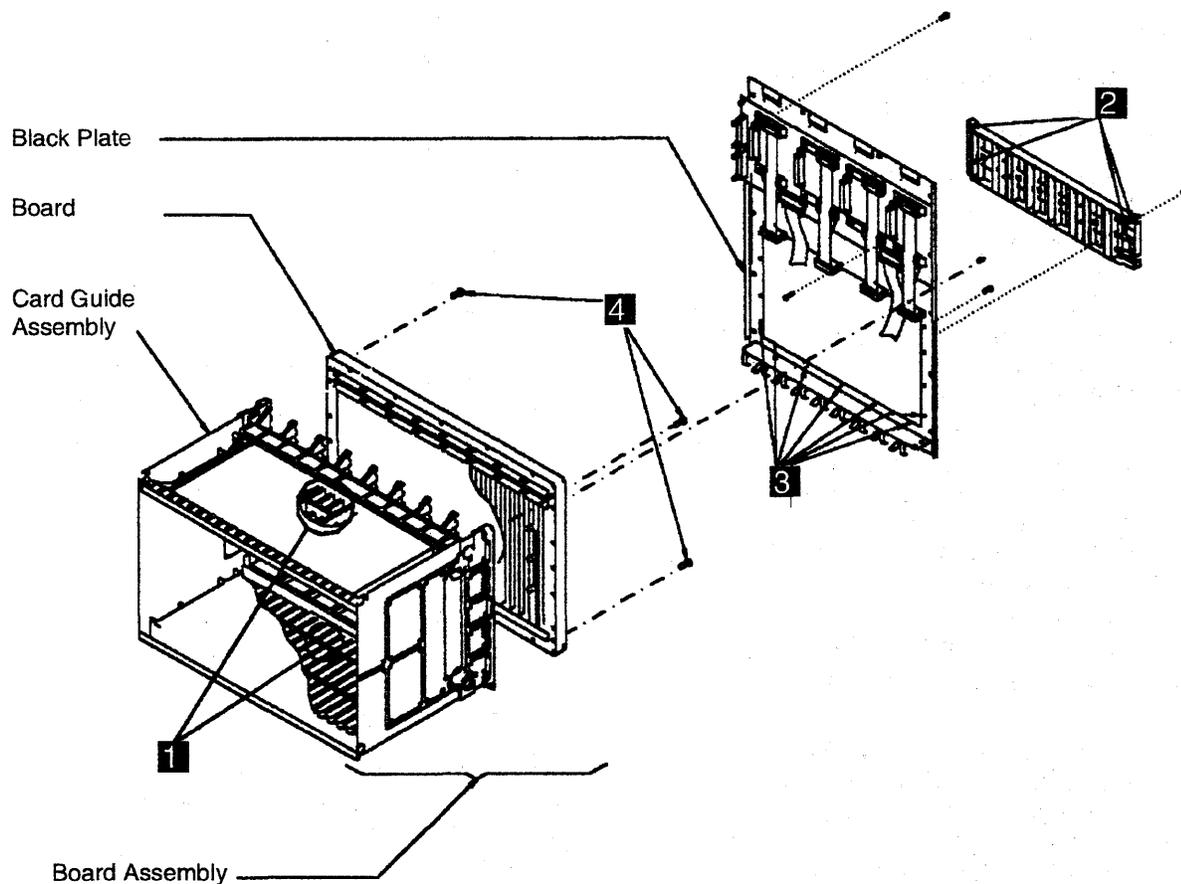

Figure 4-125. Board Assembly
19. Refer to Figure 4-125. At the front of the board, loosen the brackets **1** which maintain the flat cables at the top and bottom of the board (rows Y and Z). Remove those cables from the board.
a. Refer to Figure 4-125.
1. Attach the card guide assembly to the new board using the four screws **4**. Refer to Figure 4-125 on page 4-135.
3. Refer to Figure 4-125 on page 4-135. Ensure that there are no bent pins on the board. At the back of the channel board, re-install the four screws **2** which hold the cable retainer to the board assembly taking care that the retainer is located correctly.